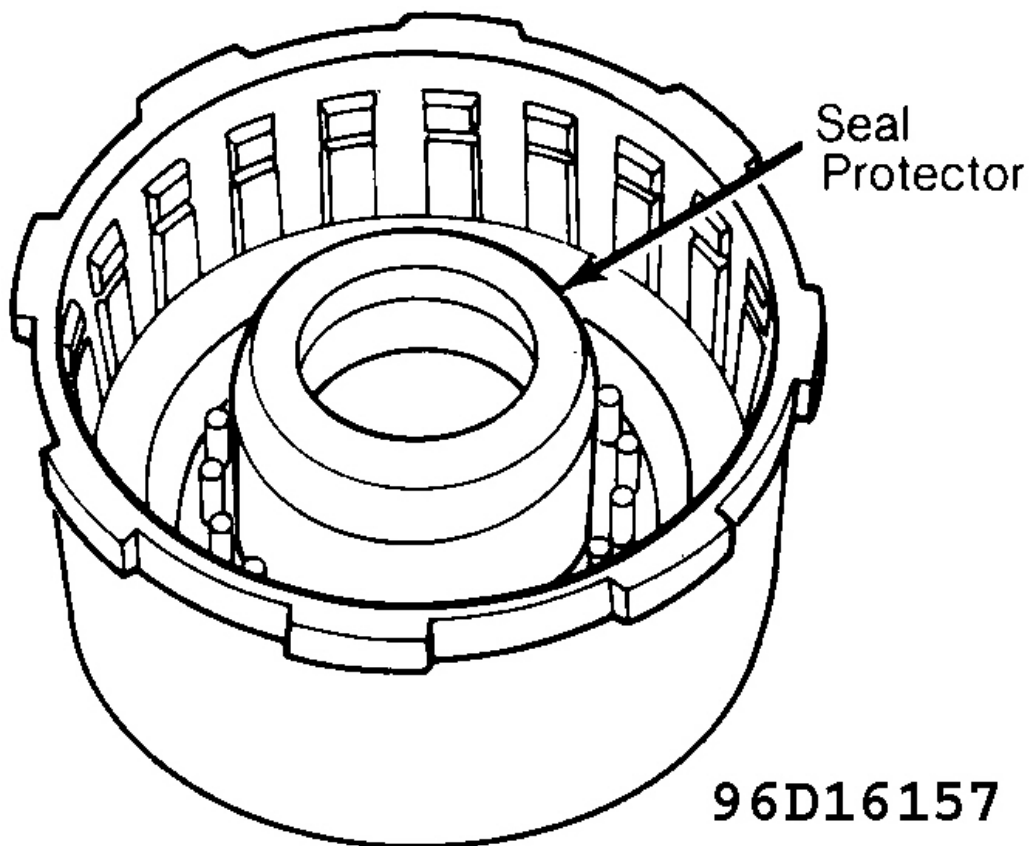

Fig. 26: Positioning of Seal Protectors for Forward Clutch Piston Installation
2. Use Protector (T74P-77548-A & B) to prevent damage when installing inner and outer seals. Install new "O" rings. Apply petroleum jelly to rings and to shoulder at clutch stub. Carefully install piston. See **Fig. 26**.